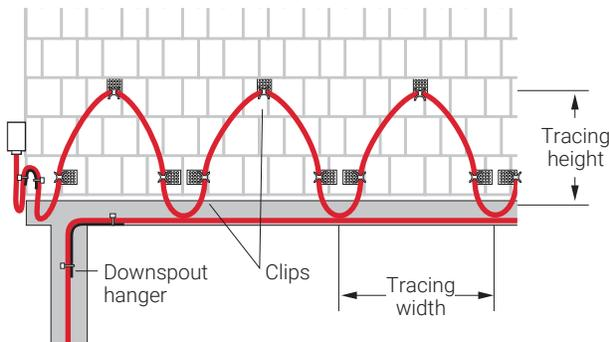
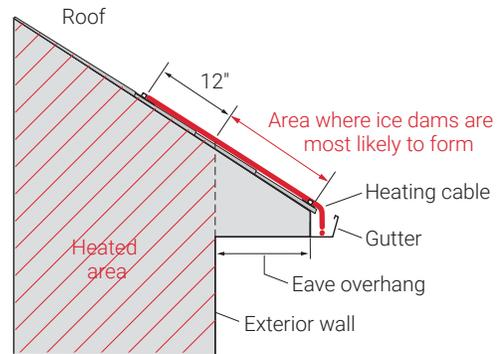

Figure 1 Front view of roof with WinterGard Wet system
Figure 2 Side view of WinterGard Wet system
Figure 1 and Figure 2 below illustrate several important terms:
- Run heating cable up the roof until it is approximately 12 inches past the exterior wall into the heated area (see Figure 2 on page 3).
- For gutter deeper than four inches, additional cable will be needed, contact nVent at (800) 545-6258.
¹ See Figure 2
² See Figure 1
- Run the heating cable up the seam until it is approximately 12 inches past the exterior wall and over a heated area (see Figure 2 on page 3).